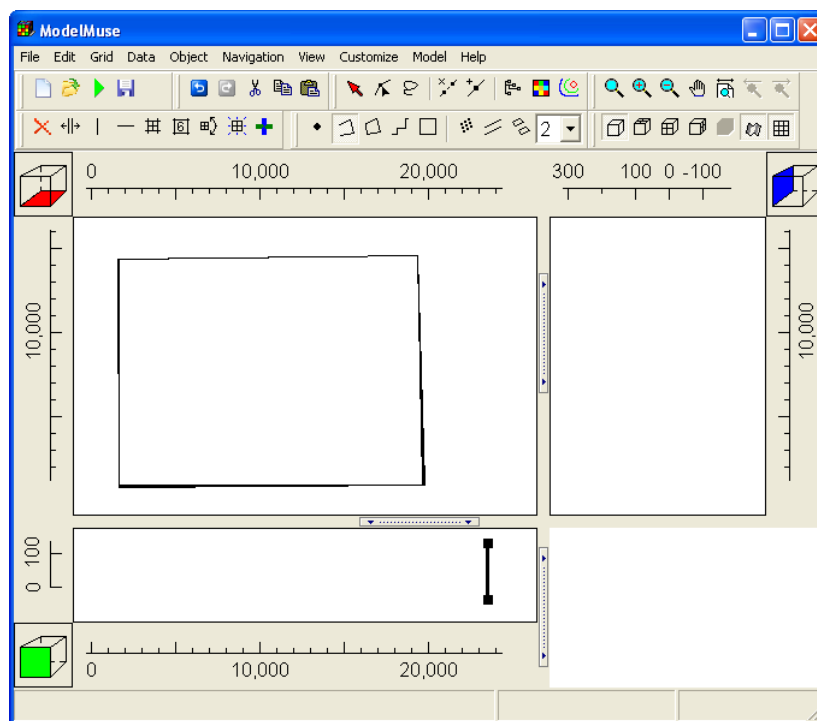

Figure 12. Two objects used to define the position of the grid.
1. The user draws one or more polygons on the top view of the model to define the grid location and the size of the elements (PHAST) or cells (MODFLOW). For PHAST, the user must also draw a line on the front or side view of the model (fig. 12). In MODFLOW, the vertical discretization is defined in the **MODFLOW Layer Groups** dialog box. (To create objects, see “Creating, Selecting, and Editing Objects in ModelMuse” in this report and the **Object** menu item.) In this example, the size of the elements are set in the **Object Properties** dialog box to 1,000 m in the horizontal direction (top view, fig. 12) and 10 m in the vertical direction (front view, fig. 12).